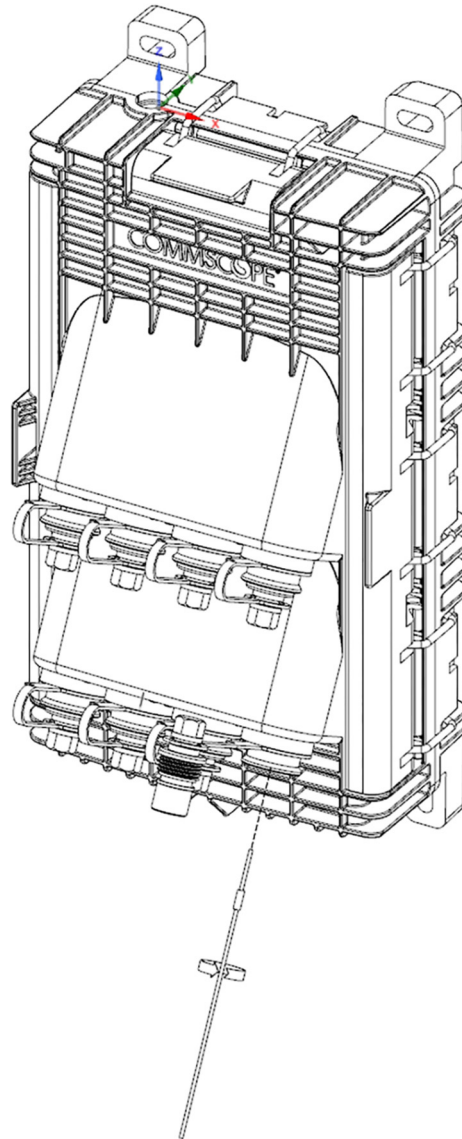

Figure 10. Cleaning Optical Port Connector and Adapter
3. Insert a dry swab into the adapter as shown in Figure 10.